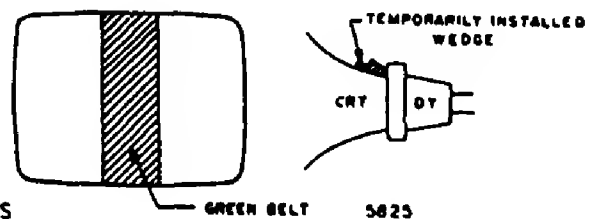

Fig. 5
(See Fig. 5)
12. Turn all three bias controls fully counterclockwise (CCW). Slowly turn up (CW) the red bias control until a Red raster is just barely visible.
15. Insert a wedge temporarily as shown in Fig. 5 and adjust the angle of the Deflection Yoke.